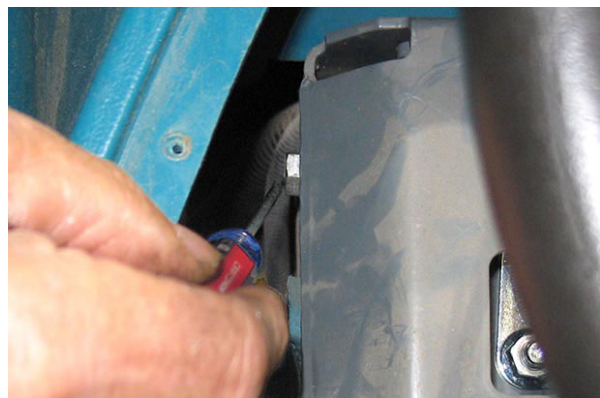

FIG. 28
29. Thread the saved M8 hex screw into the steering support channel. (Fig. 28)